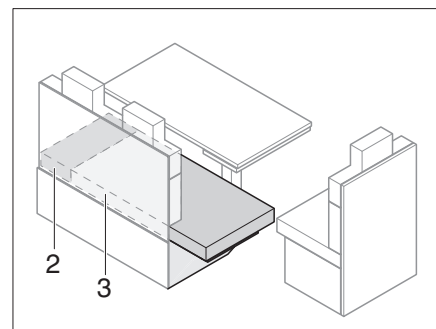

Fig. 143 After extending
- Pull the seat cushions (Fig. 143,3) onto the bench seat extension.
- Lay the additional cushions (Fig. 143,2) between the seat cushions (Fig. 143,3) and the exterior wall.
- Remove the additional cushion (Fig. 143,2).
- Pull the seat cushions (Fig. 143,3) onto the bench seat.